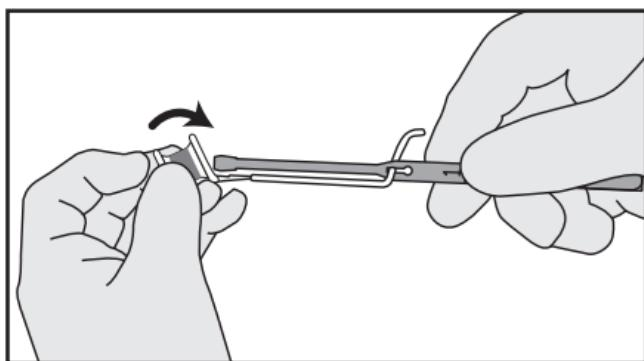

Figure 4
2. Place the prosthesis on top of the Inserter with the tracheal side down (Fig.4).